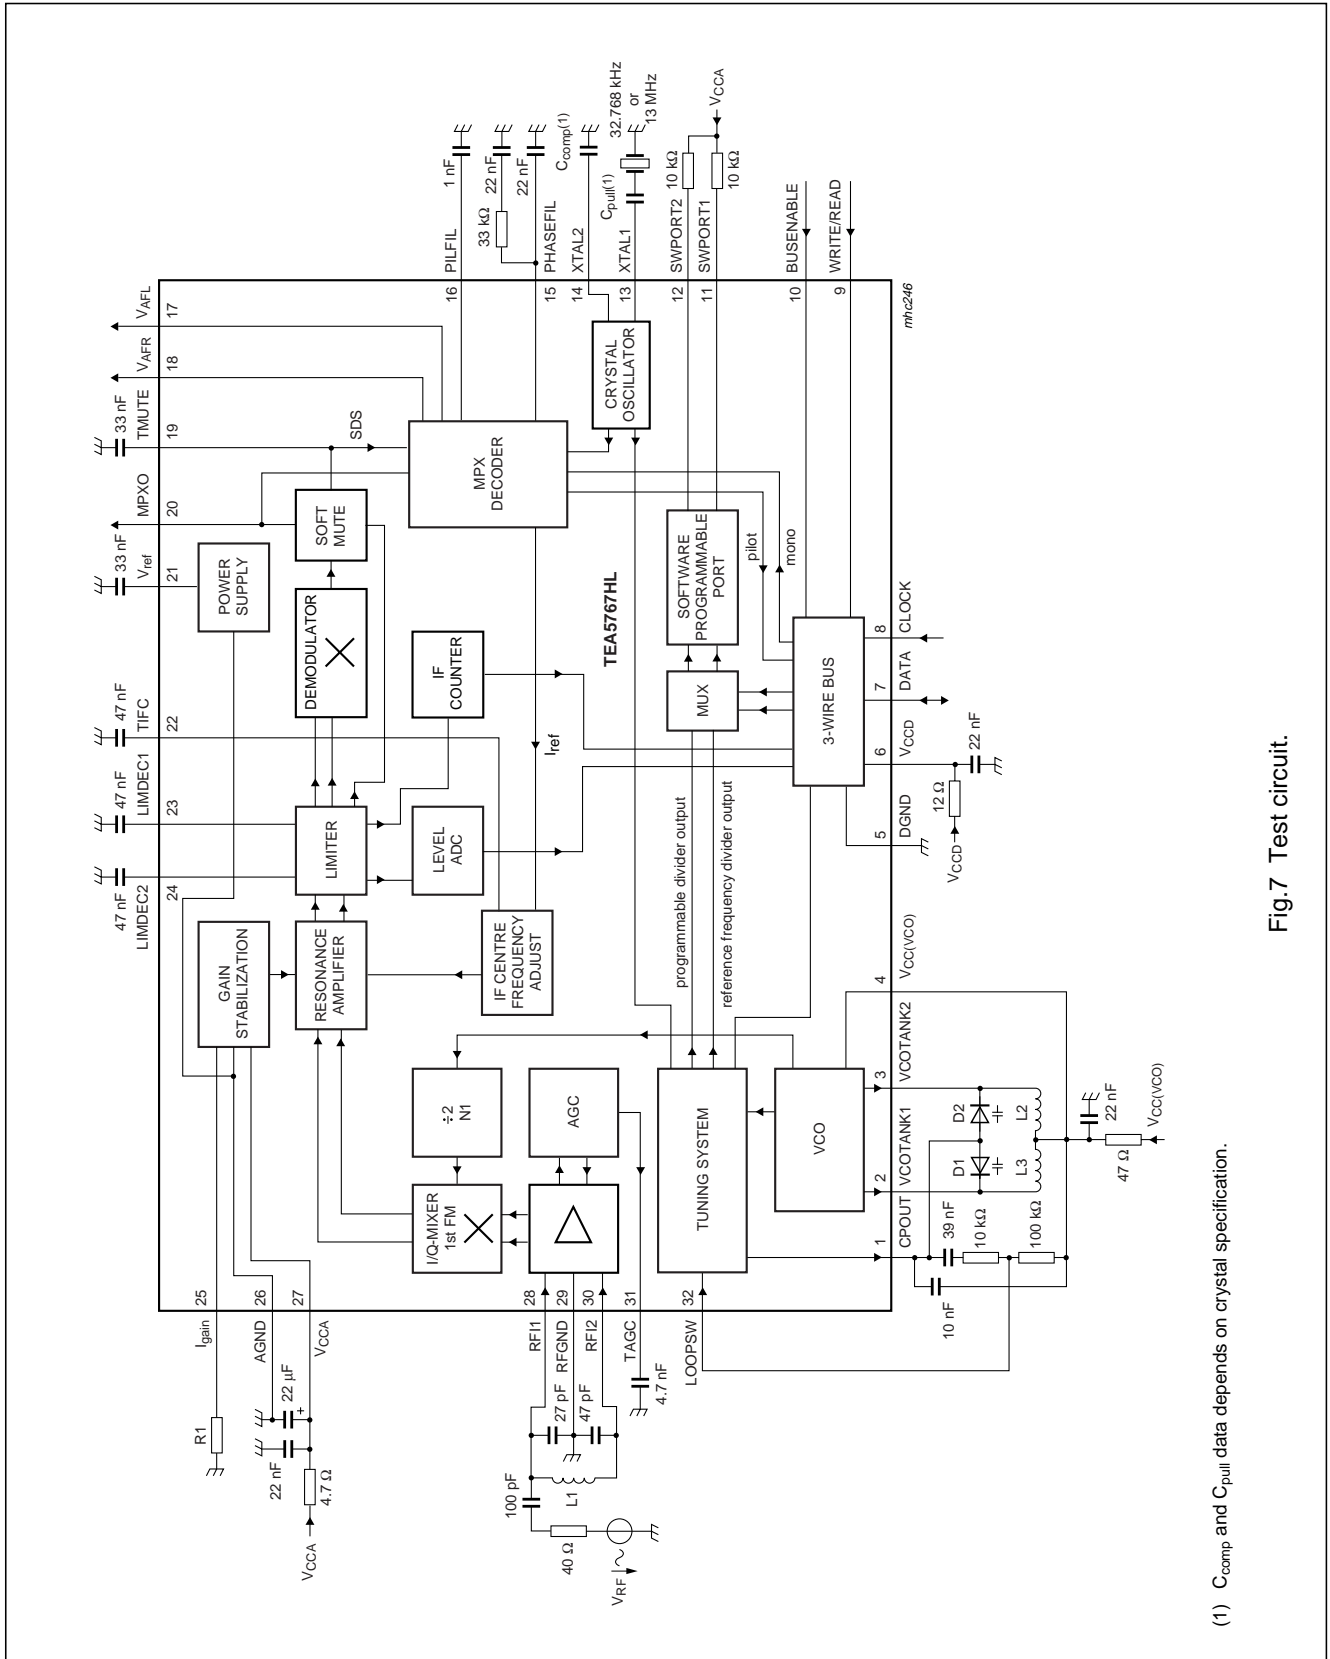

Fig.7 Test circuit.
2. V_{RF} in Fig.7 is replaced by $V_{\text{RF1}} + V_{\text{RF2}}$. The radio is tuned to 98 MHz (HIGH side injection).